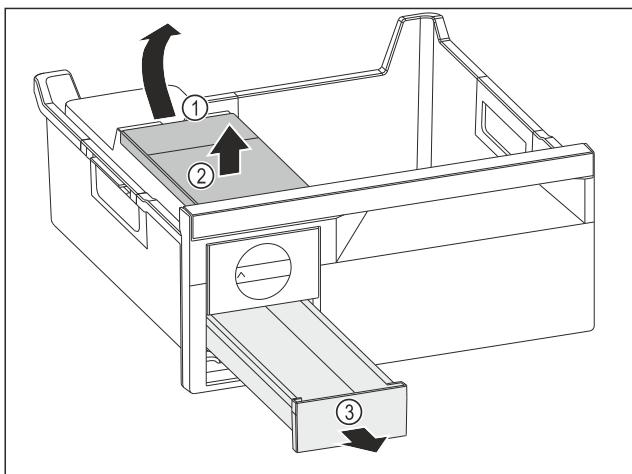

Fig. 157
- ▶ Removing the water tank: Lift the water tank by the recess *Fig. 157 (1)*.
- ▶ Remove the water tank *Fig. 157 (2)* upwards.
- ▶ Remove the ice cube drawer *Fig. 157 (3)* to the front.